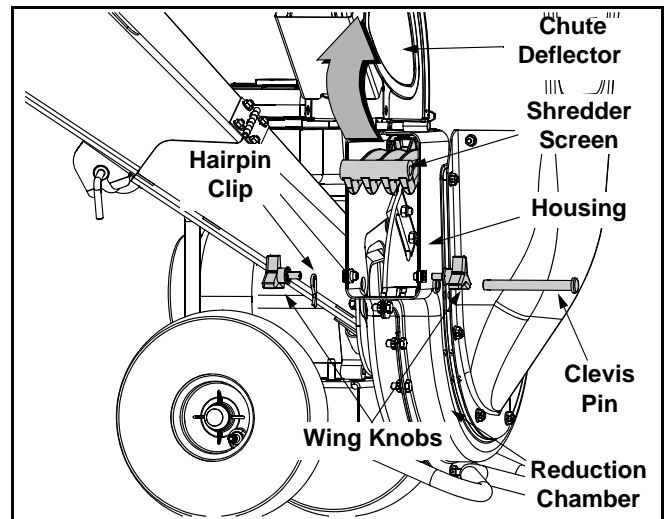

Figure 8
- Remove the two wing knobs on either side of the chute deflector and pivot the chute deflector upward. See Figure 8.
- Remove the hairpin clip from the clevis pin which extends through the housing and shredder screen. See Figure 8. Retain the clevis pin and hairpin clip.